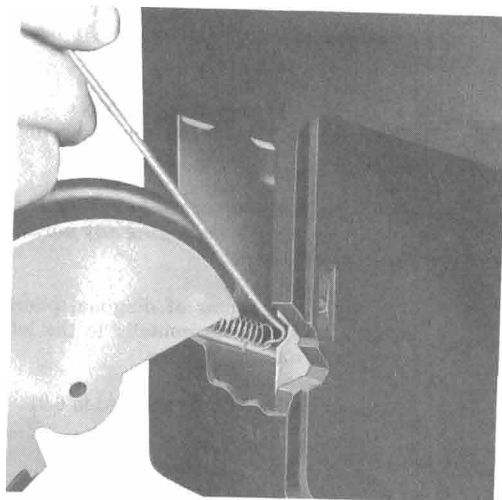
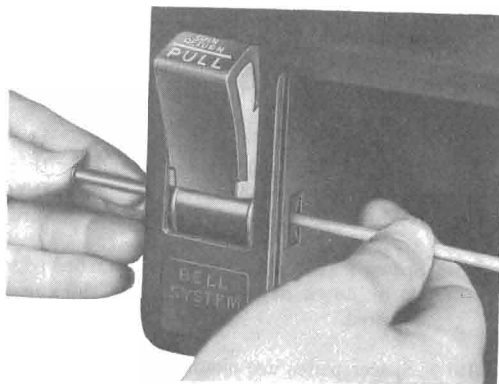

Fig. 51—Attaching Springs in Return Chute
Fig. 52—Inserting Shaft in Housing
- (3) Use TP-75503 spring hook to engage springs on crossbar in coin chute (Fig. 51).
- (4) Insert and hold pull bucket in normal position.
- (5) Use orange stick or equivalent to line up holes in pull bucket and housing.
- (6) Insert P-27E462 stainless steel shaft in housing and force fit using hammer and drive punch (Fig. 52).